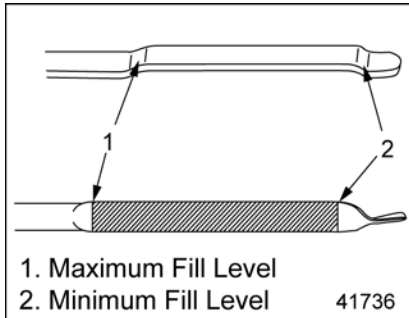

Figure 10 Oil Dipstick
1. Check the oil level using the oil dipstick (See Figure 10).